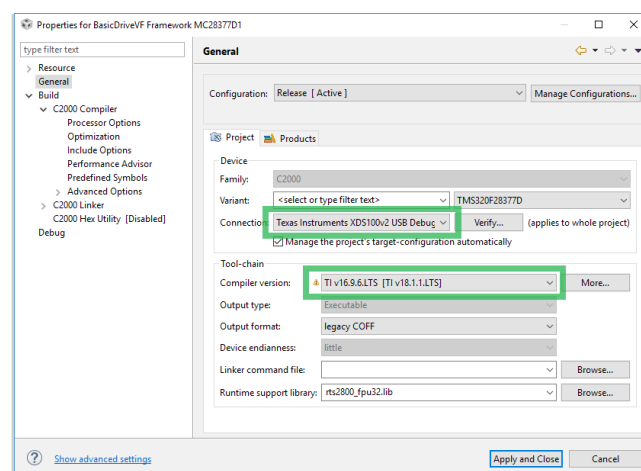

Figure 14: The general properties of the project, showing the selections for debug probe and compiler version.
- In the **Windows** menu, select the **Preferences** menu item to show the **Preferences** dialogue box. See Figure 14.
- In the navigation pane at the left, select **General** to show the **General** properties. See Figure 14.